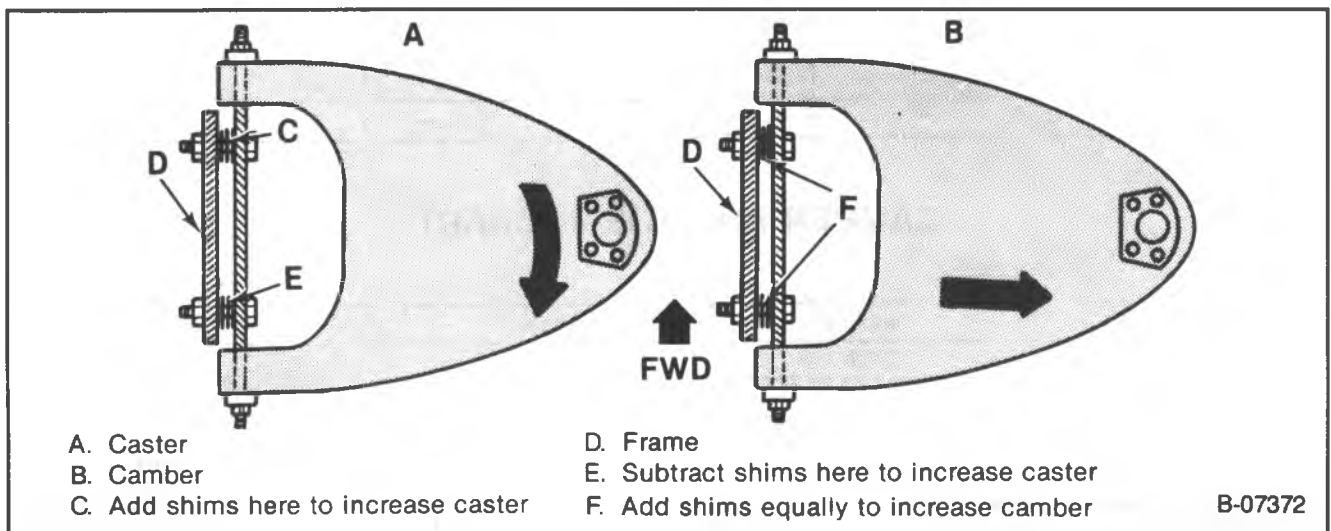

Figure 3 — Caster-Camber Adjustment
5. Refer to figure 3. To determine an "actual (corrected) caster reading" with various frame angles and caster readings, one of the following rules apply:
6. Dimension "BC" measured 90 degrees from the lower surface of the crossmember (C) and to the inboard rear corner of the jounce bumper bracket (B).